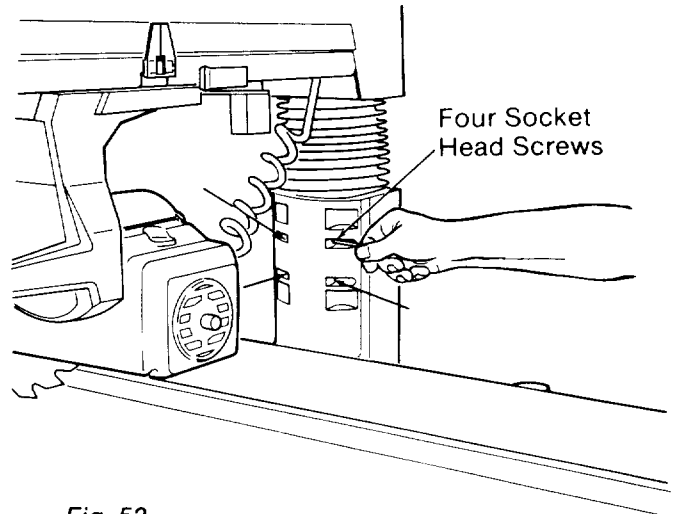

Fig. 53
1. Use a $1/8"$ hex "L" wrench to loosen the four screws in the front of the *column support*. (Figure 53)